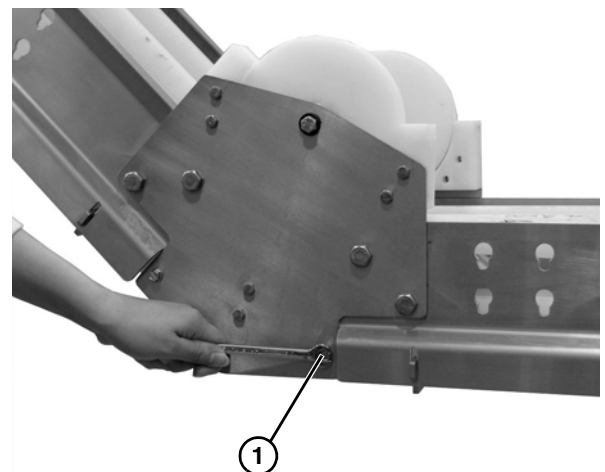

Figure 11
3. Secure belt returns to lower knuckle with cap screw (**Figure 11, item 1**).